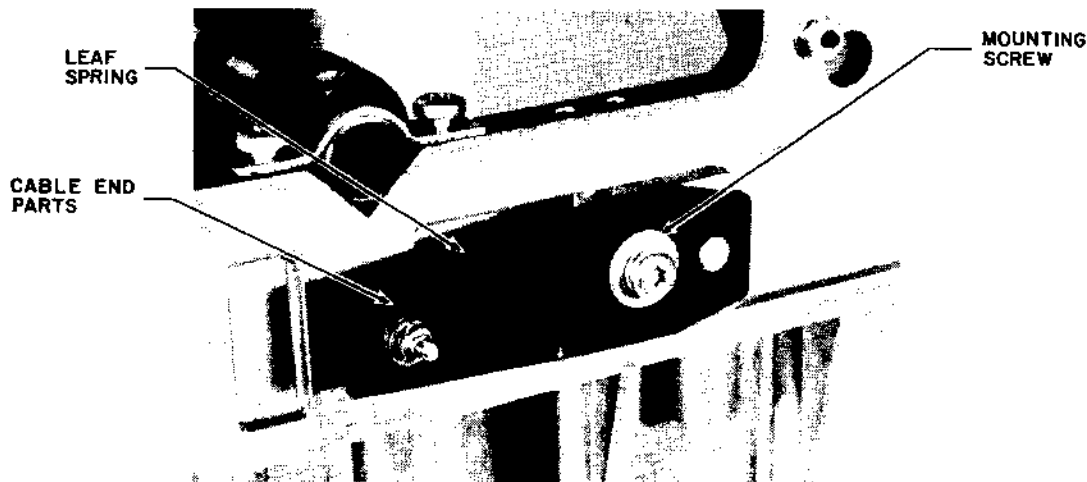

Figure 5-33 DRIVE CABLE TENSION SPRING
- # Refer to Figure 5-33. Use a TORX T15 screwdriver to loosen the mounting screw and release the drive cable tension leaf spring, located on the left-hand side of the printer's main frame. This will release tension on the carriage drive cables.